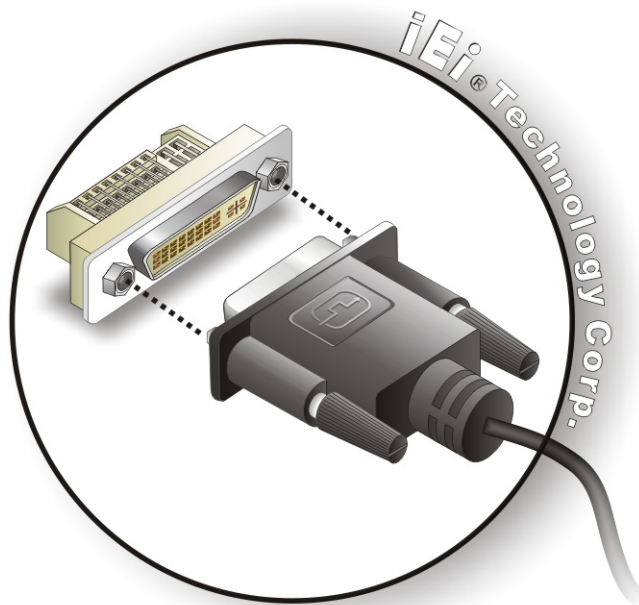

Figure 4-14: DVI Connector
- Step 3:** **Insert the DVI connector.** Once the connectors are properly aligned with the male connector, insert the male connector from the digital display device into the female connector on the KINO-DH610. See **Figure 4-14**.